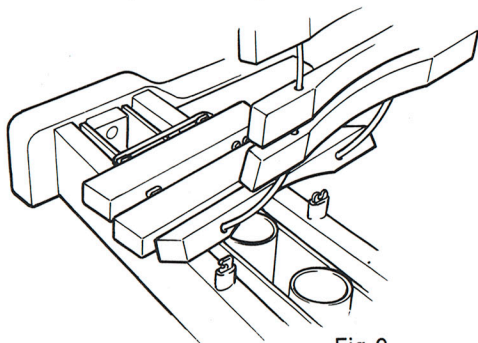

Fig 9
- ⑧ The tone bars are set starting with the natural tone bars. First, with another person, hold the tone-bar suspension cords on each end and place the tone bars on the frame. (Fig 9)